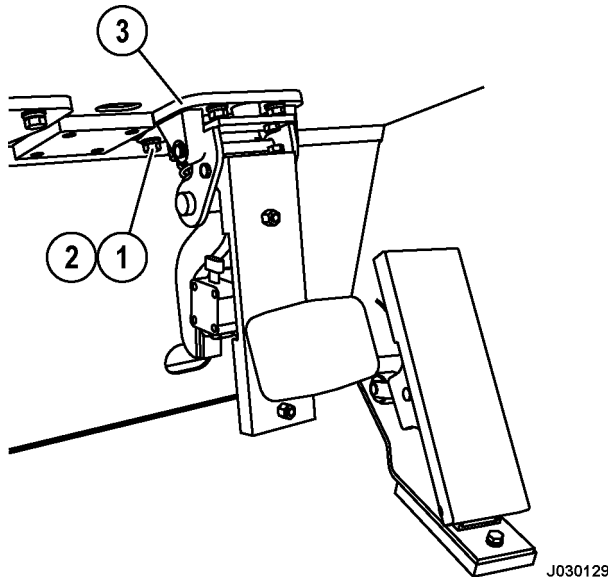

FIGURE 3-2. BRAKE VALVE REMOVAL
6. Remove capscrews (1, Figure 3-2) and lockwashers (2) that secure brake valve assembly (3) to the mounting structure.
1. Place brake valve assembly (3, Figure 3-2) into position in the cab and secure it with capscrews (1) and lockwashers (2). Tighten the capscrews to the standard torque.